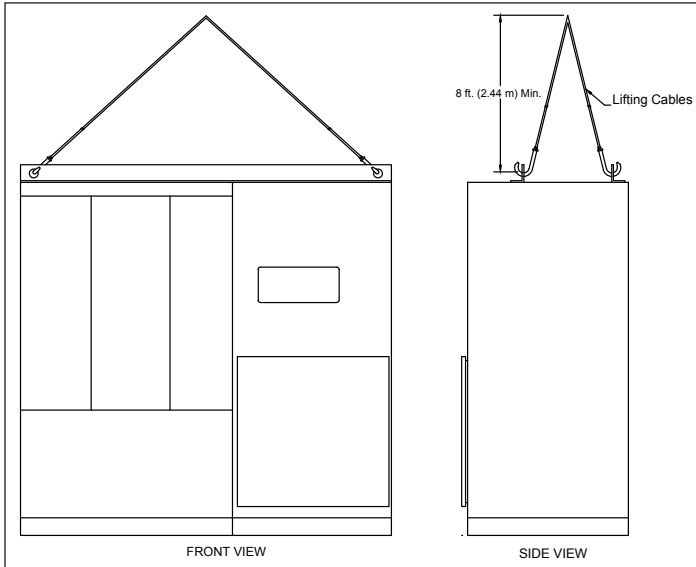

Figure 9. Lifting Angles for Unitized Power Center.
- Figure 9: Unitized Power Center